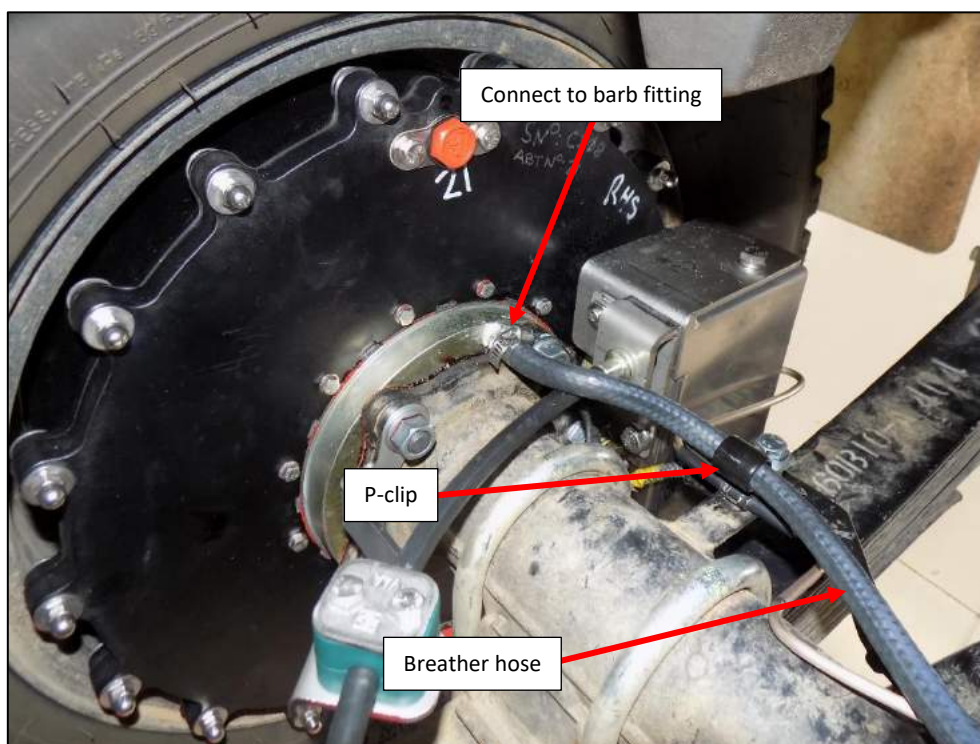

Figure 49
39. Connect breather hose to the barb fitting on the RH-brake and secure with a hose clamp (Figure 49). Route the hose across the axle toward the diff centre.